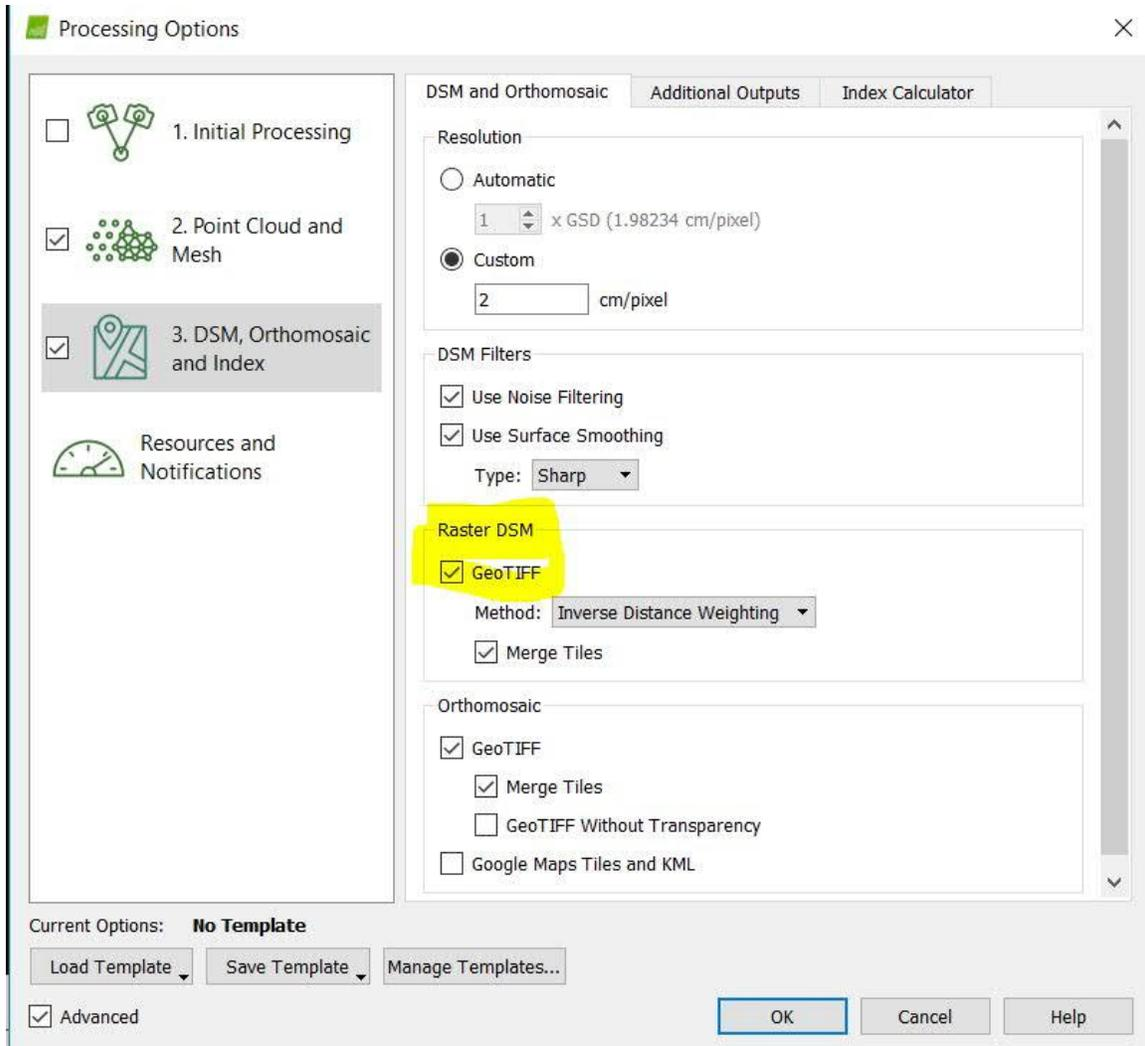

Figure 6 DTM setup in the “DSM and orthomosaic” tab
- 8) In addition, choose the two options sequentially to create DTM as it is illustrated in Figures 6 and 7. DTM in Pix4D terminology is a bare-earth surface model created from the DSM after it is cleaned out from buildings, trees, cars, and any above ground features. DTM is the product you need to generate the contours from. Contours should